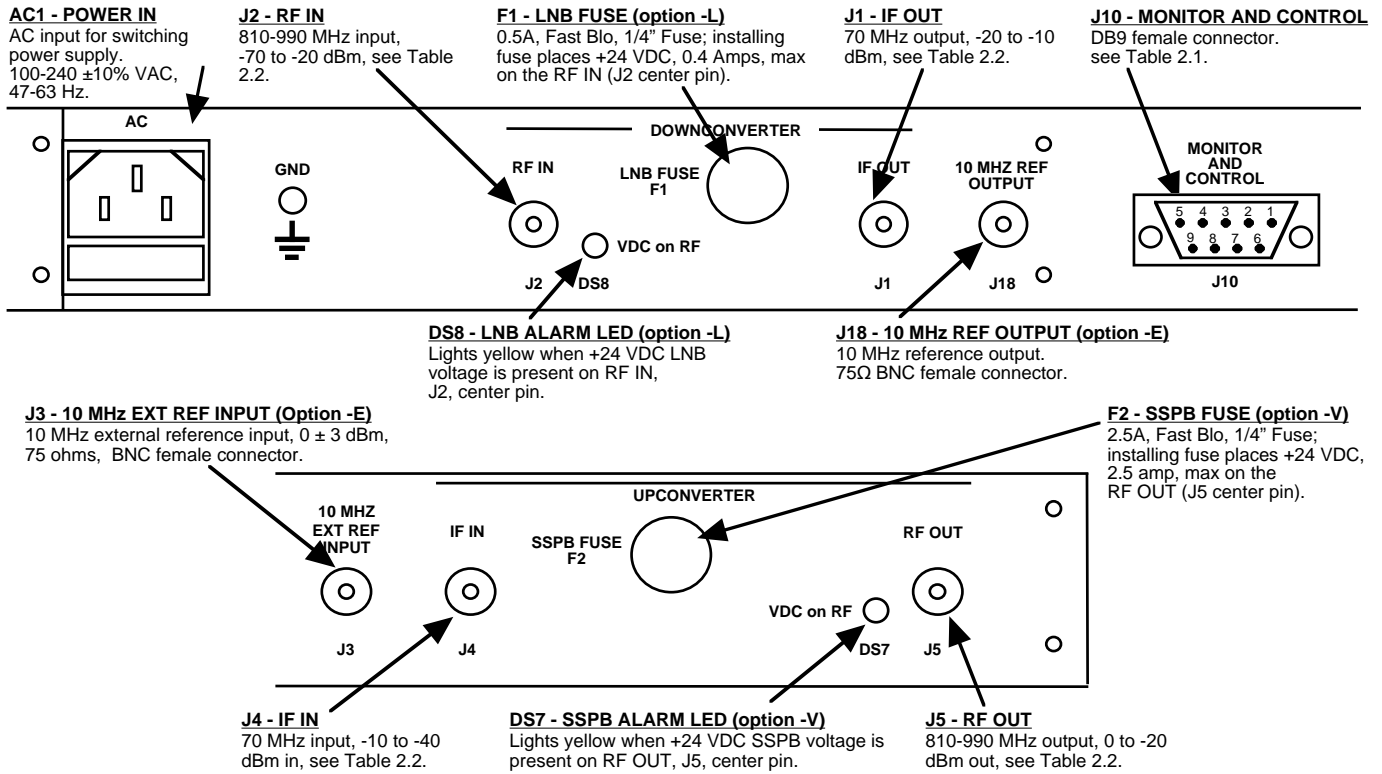

Figure 2.1 Model 2017-81 Rear Panel I/O's
2.2 Rear Panel Input/Output Signals and Control - Figure 2.1 shows the input and output connectors on the rear panel.
- 1.) Connect a -10 dBm to -40 dBm signal to IF In, J4 (Figure 2.1).
- 1.) Connect a -70 dBm to -20 dBm signal to RF In, J2 (Figure 2.1).